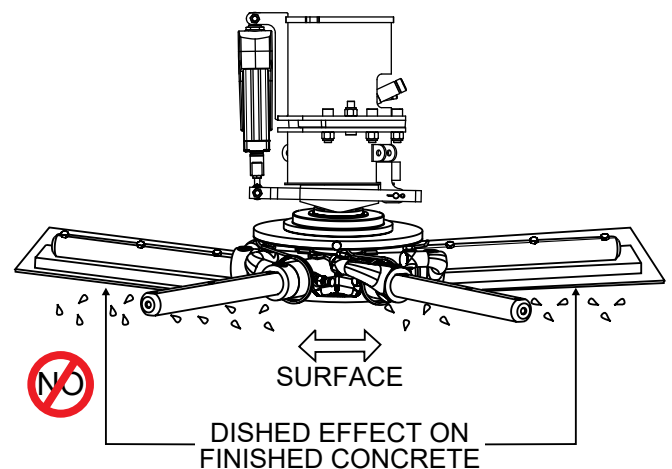

Figure 47. Incorrect Spider Alignment
3. If any adjustment bolts are not making contact with the lower wear plate, adjustment will be necessary. Figure 47 illustrates incorrect alignment, worn spider bushings, or bent trowel arms.